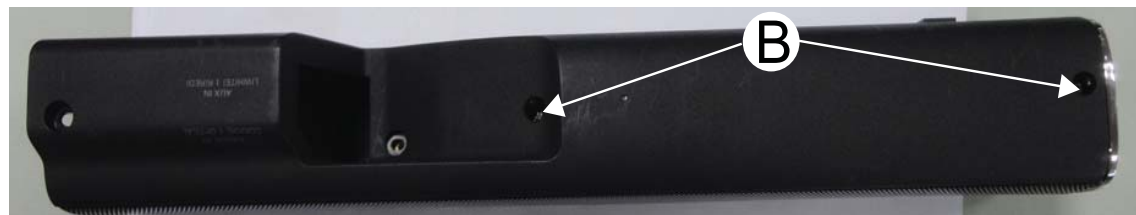

Figure 2
- 1) Loosen 2*2 screws "B" at both side of SPK_L/R to remove the rear Housing as shown in figure 2.